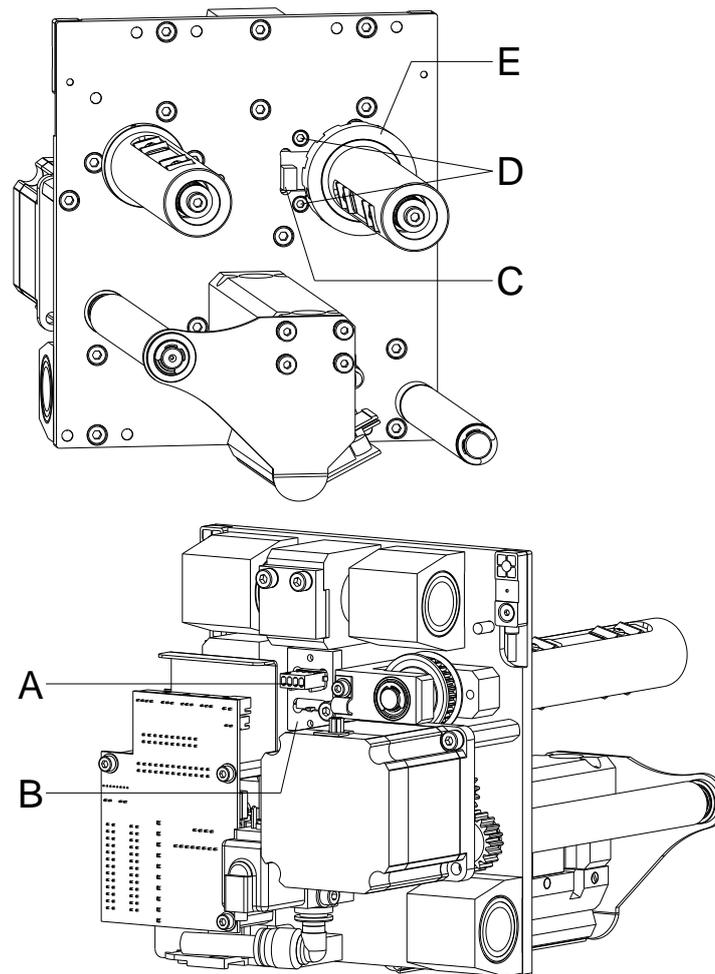

Figure 36
1. Press the new encoder (C, Figure 36) in the bracket (B, Figure 36).
2. Place the encoder (C, Figure 36) with the bracket (B, Figure 36) from behind in the print carriage.
Install the bracket (B, Figure 36) in such a way that the smaller (NOT the greater) fork of encoder (C, Figure 36) immerse in the roller (E, Figure 36) of the transfer ribbon unwinder.
3. Tighten the two screws (D, Figure 36).
4. Insert the connector (A, Figure 36) on the rear into the encoder (C, Figure 36).